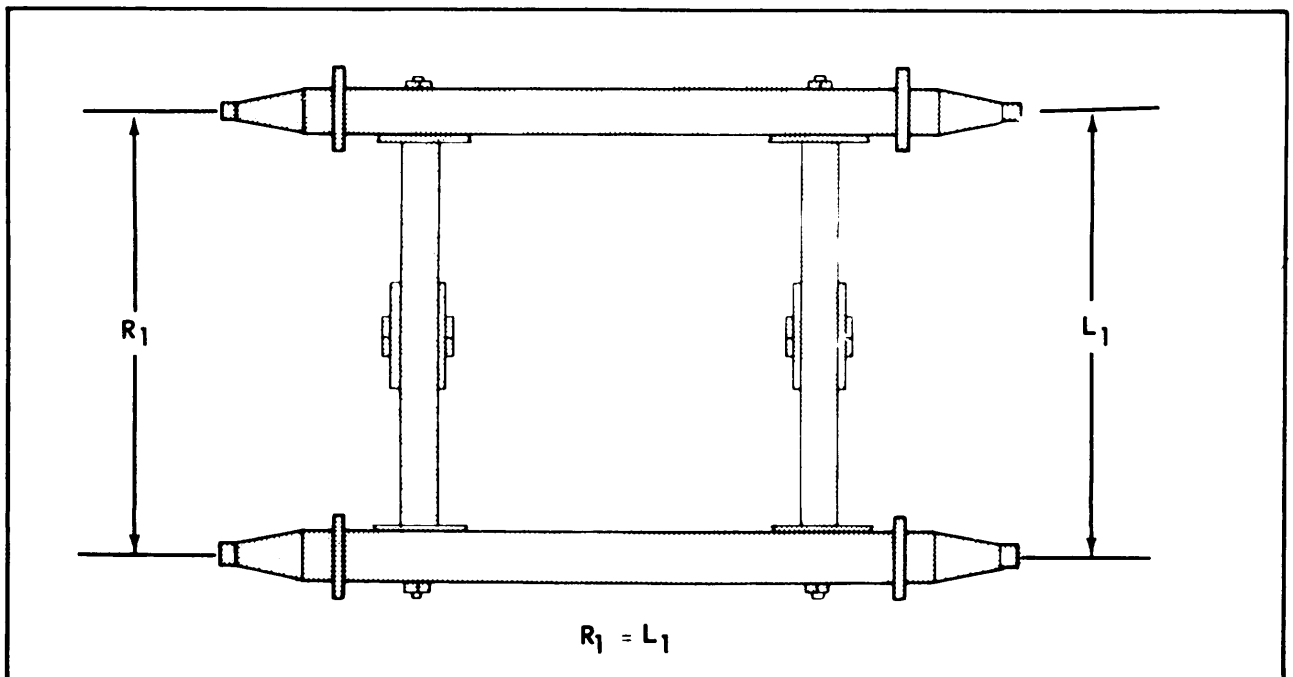
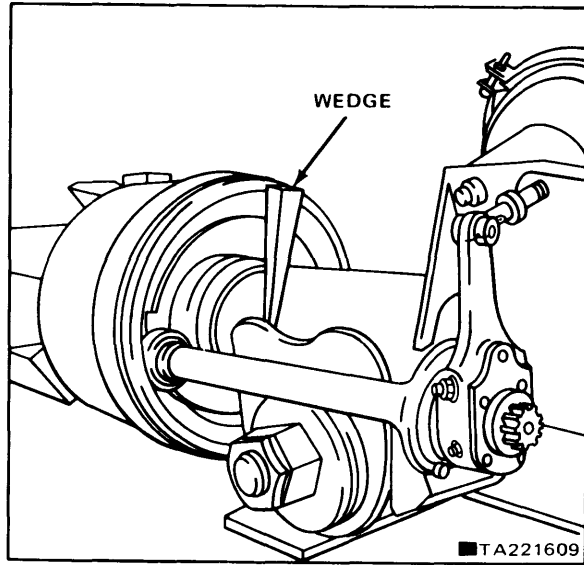

FIGURE 10-13. EQUALIZING AXLE CENTERS.
FIGURE 10-14. WEDGING BETWEEN CAST RETAINER AND AXLE TO OBTAIN FINE ADJUSTMENT OF AXLE CENTERS.
f. Check the distance from the center of the spindle of one axle to the center of the other. Check this distance on the other side (see figure 10-13). If these distances are not equal ( $R1=L1$ ), place a wedge between the axle and saddle to get them the same (see figure 10-14).